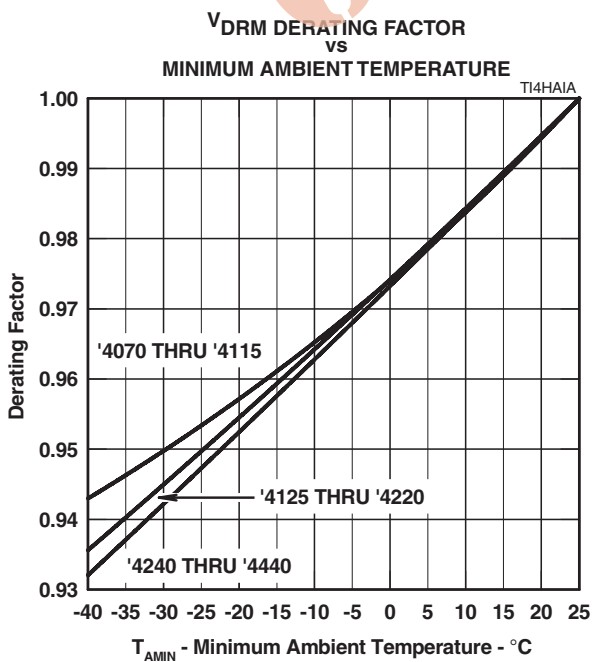
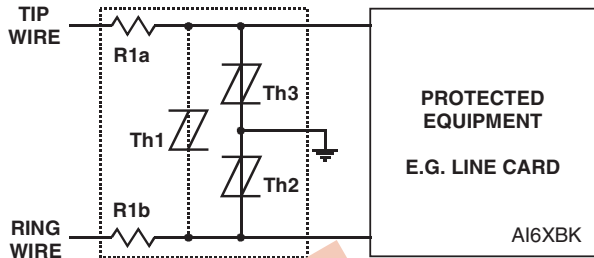
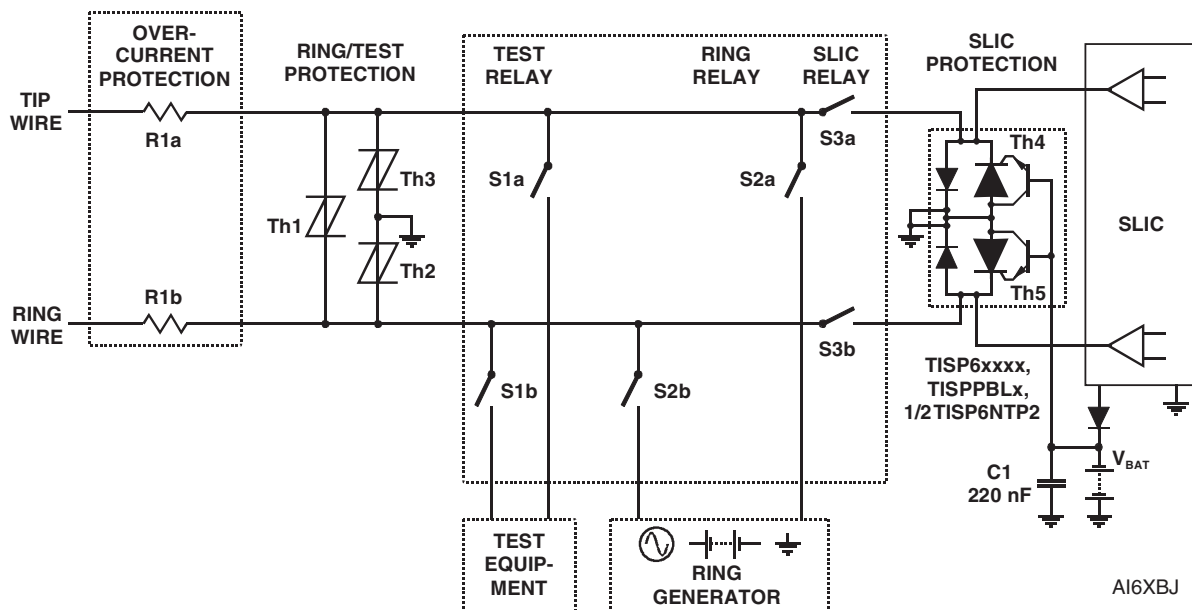

Figure 10.
Figure 15. PROTECTION MODULE
Figure 17. LINE CARD RING/TEST PROTECTION
- NOTES: 1. See Applications Information and Figure 10 for voltage values at lower temperatures.
The protector characteristic off-state capacitance values are given for d.c. bias voltage, V_D , values of 0, -1 V, -2 V and -50 V. Where possible, values are also given for -100 V. Values for other voltages may be calculated by multiplying the $V_D = 0$ capacitance value by the factor given in Figure 6. Up to 10 MHz, the capacitance is essentially independent of frequency. Above 10 MHz, the effective capacitance is strongly dependent on connection inductance. In many applications, such as Figure 15 and Figure 17, the typical conductor bias voltages will be about -2 V and -50 V. Figure 7 shows the differential (line unbalance) capacitance caused by biasing one protector at -2 V and the other at -50 V.
Figure 10 allows the calculation of the protector V_{DRM} value at temperatures below 25 °C. The calculated value should not be less than the maximum normal system voltages. The TISP4260H3LM, with a V_{DRM} of 200 V, can be used for the protection of ring generators producing 100 V rms of ring on a battery voltage of -58 V (Th2 and Th3 in Figure 17). The peak ring voltage will be $58 + 1.414 \cdot 100 = 199.4$ V. However, this is the open circuit voltage and the connection of the line and its equipment will reduce the peak voltage. In the extreme case of an unconnected line, clipping the peak voltage to 190 V should not activate the ring trip. This level of clipping would occur at the temperature when the V_{DRM} has reduced to $190/200 = 0.95$ of its 25 °C value. Figure 10 shows that this condition will occur at an ambient temperature of -28 °C. In this example, the TISP4260M3LM will allow normal equipment operation provided that the minimum expected ambient temperature does not fall below -28 °C.